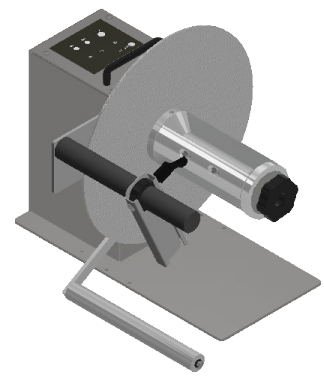

FIG. 3
- Install the black shaft and glide the media guide over the shaft (FIG.3)